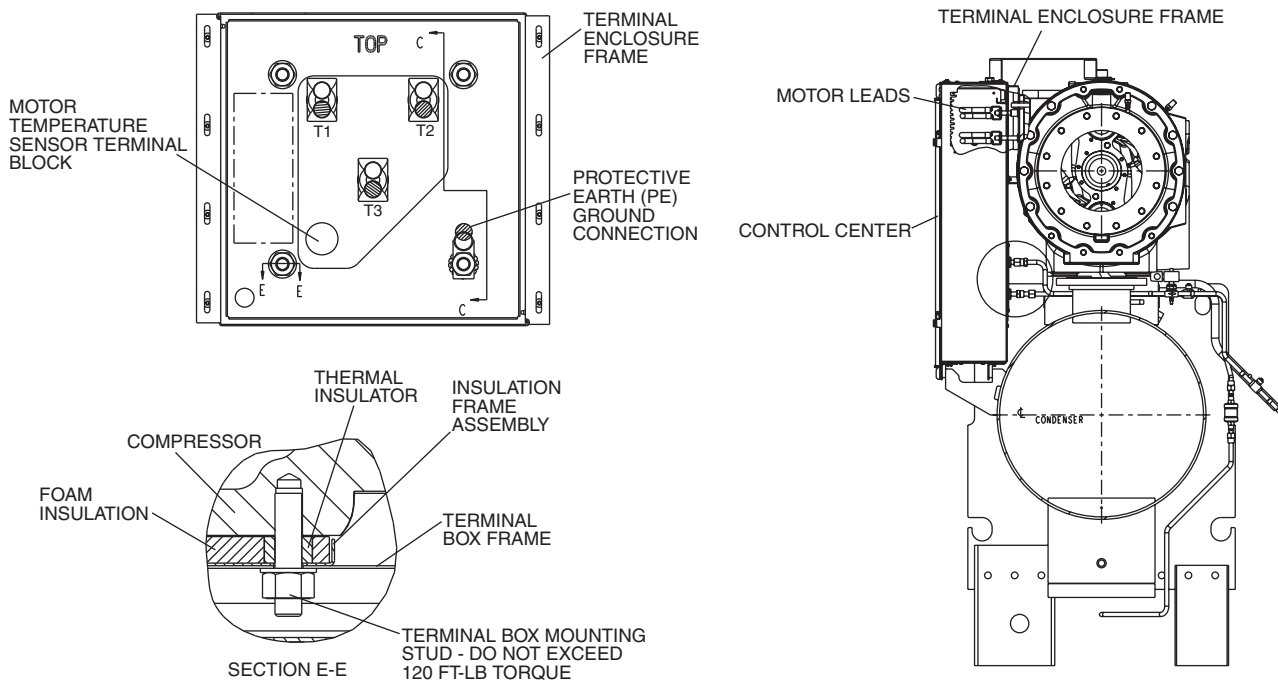

Fig. 38 — Motor Terminal Box (Q and R Compressors)
1. Install terminal box frame mounting studs into tapped holes using short threaded end (see section E-E in Fig. 38 and 39). Do not exceed 120 ft-lb (163 N-m).